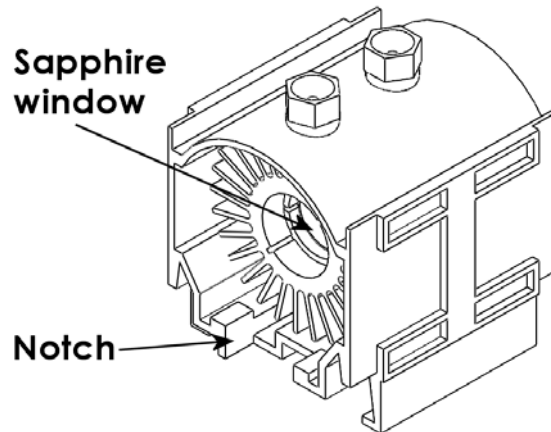

Figure 5-6. Position of the bulb/heat sink assembly in the blue housing.
4. Insert the heat sink/bulb assembly into the blue housing. Make sure the SAPPHIRE WINDOW side (output) is the same side as the notch in the blue housing (Figure 5-6). Screw in the terminals (the one located closer to the sapphire window has smaller threads than the other) slightly more than hand tight to complete the bulb installation in the blue housing.